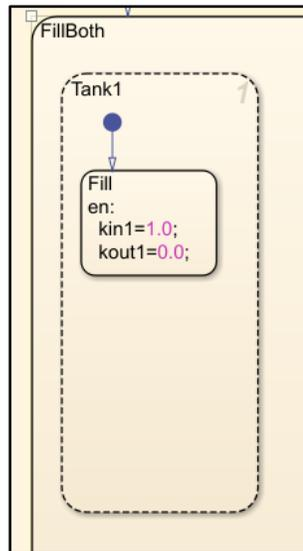

Figure 24. Filling of Tank1.
f) Enter action lines inside the “Fill” block to match what is shown in Figure 24.
h) Include some command lines as shown in Figure 24. (This closes the inlet valve to tank 1.)